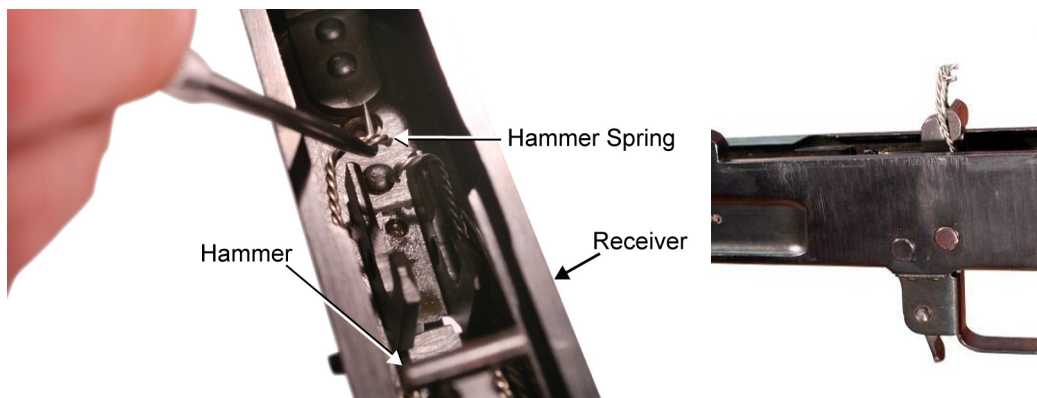

Figure 20. Placing the Ends of the Hammer Spring Behind the Hammer.
- g. Using needle-nose pliers or the curved scraper tool, pull the ends of the hammer spring behind the hammer. If necessary, secure the ends with wire. Refer to Figure 20.